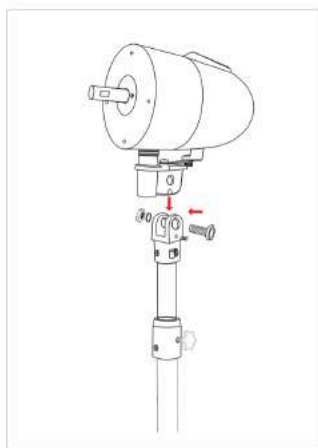

Figure 2
2. Loosen the thumbwheel at the top of the tube to release its extensible part, adjust to the desired height and tighten the thumbwheel. Figure 2
3. Assemble the motor on the tube. Figure 2